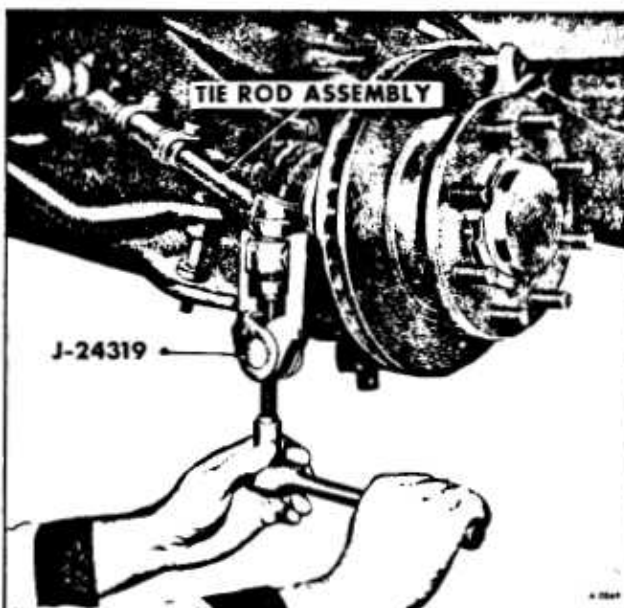

Figure 4-Removing Tie-Rod End
5. Using Tool J-24319 as shown in Figure 4, remove tie rod end from spindle.